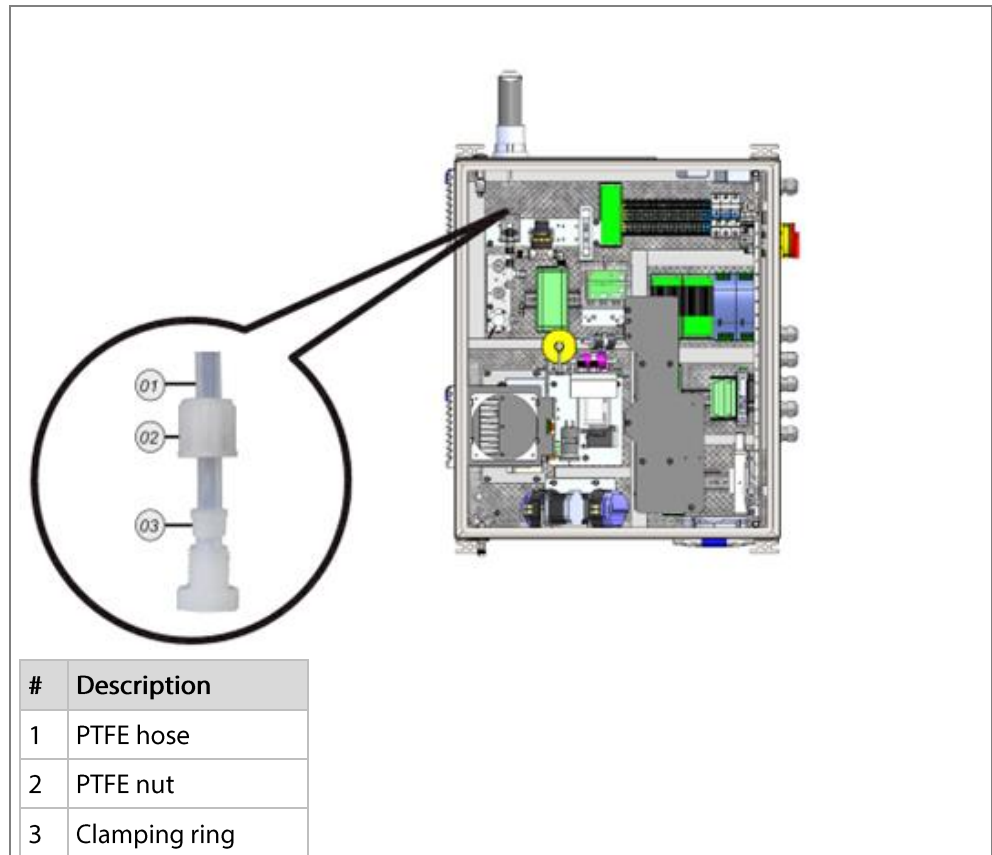

Fig.4
▶ Open the cover of the HD-probe (Fig.4).